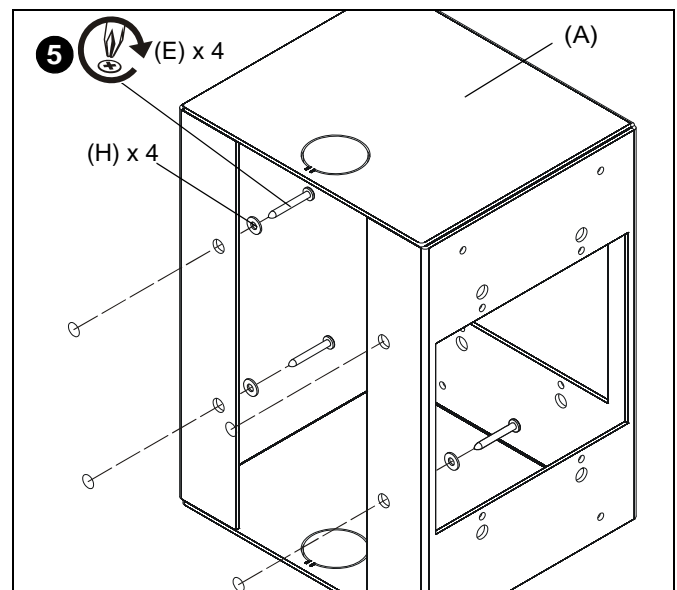

Figure 3
4. Place electrical box (A) against wall lining up the holes on the back with the drilled holes. (See Figure 3)
5. Install four #10 x 1 3/4" Phillips screws (E) through #10 washers (H), holes in electrical box (A) and into holes in wall. (See Figure 3)